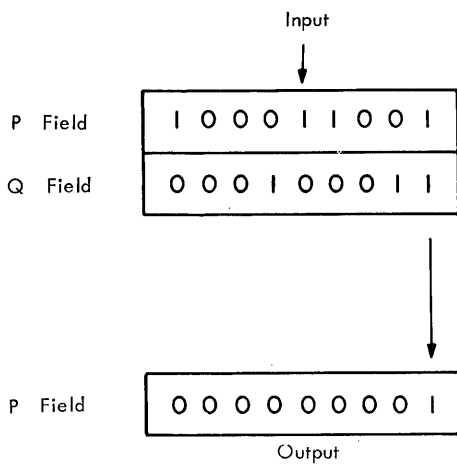

Figure 69. AND Logic
*Description.* The AND logic also consists of two inputs and a resulting output based on the presence or absence of input bits. The difference between AND and OR logic is that OR logic provides an output bit if either one of the inputs contains a bit; whereas, AND logic provides an output bit only when *both* inputs contain a bit, as illustrated in Figure 69.